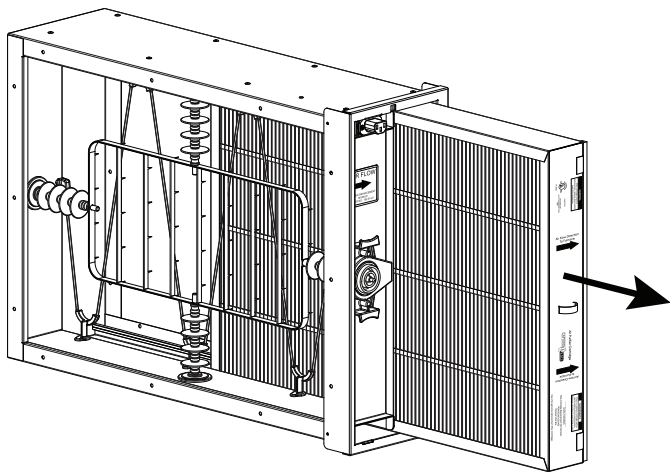
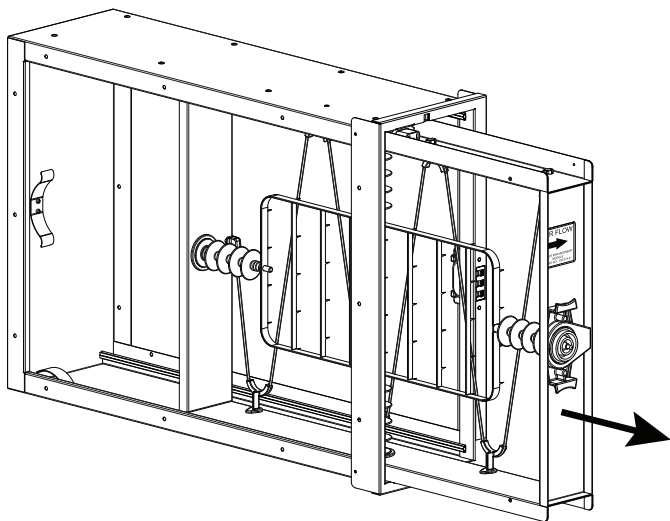

Fig. 6 – Removing Filter
Fig. 7 – Removing FEM
3. Remove the air purifier cartridge and Filter Enhancement Module (FEM) from the air purifier cabinet (Fig. 6 and Fig. 7).